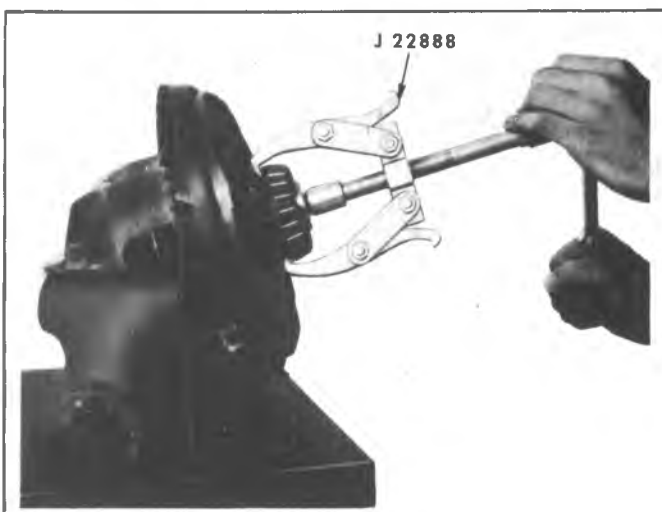

Fig. 3B--Differential Bearing Removal
1. Install Tool J-22888 and Adapter Plug J-8107-4, J-8107-3 for the 9 1/2" ring gear, assuring puller legs are fitted securely in notches in case and against bearing cone, as shown in figure 3B.